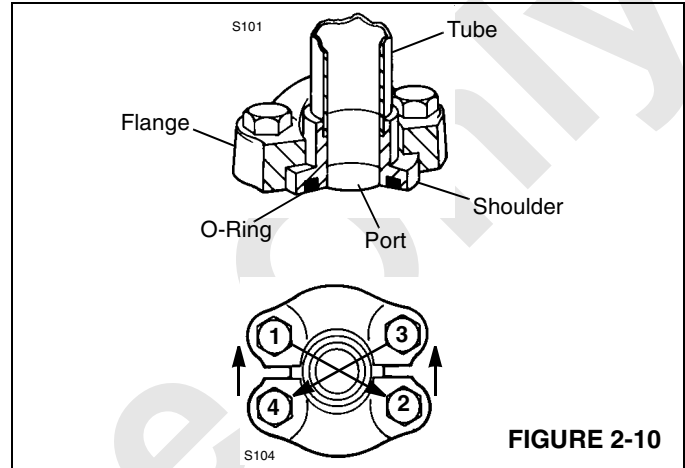

FIGURE 2-10
Lubricate and install O-ring in shoulder groove (see Figure 2-10).
3. Snug bolts in a diagonal manner (see Figure 2-10) to 1/3 of torque given in Table 2-6.